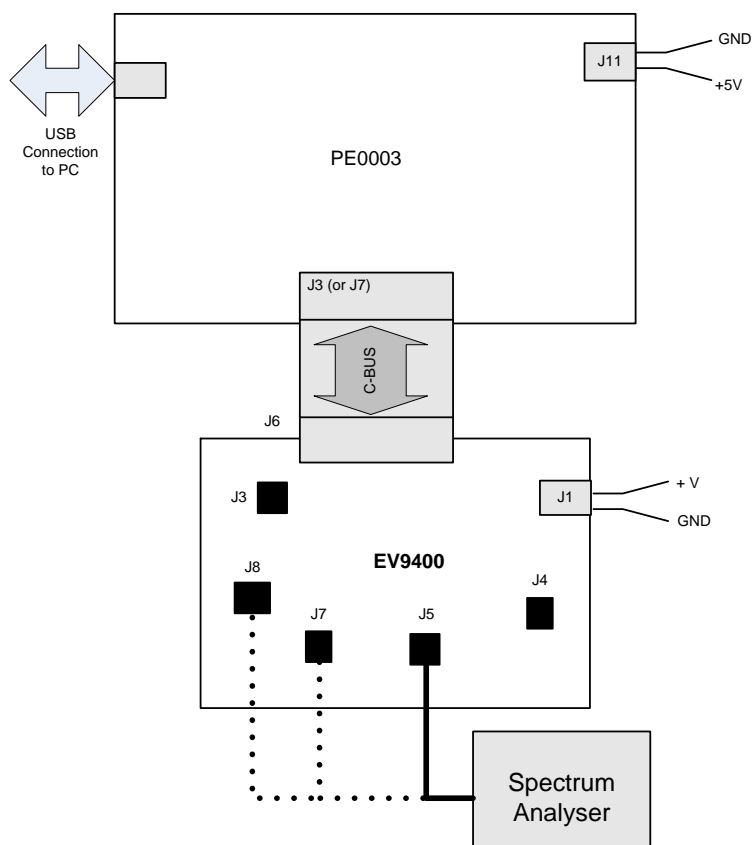

Figure 3 Typical Evaluation Connections for EV9400
1. Connect the boards as shown in Figure 3.